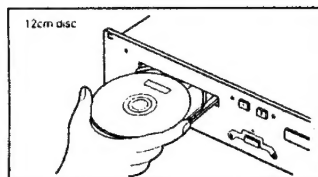
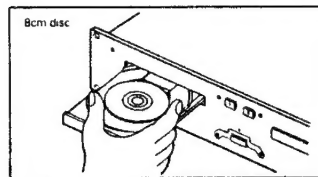

Figure 6
Figure 7
(1) Opening and Closing the Disc Holder and Loading Discs
① Opening and closing the disc holder
② Loading discs
- When using 12cm discs, place the disc in the outer tray guides (Figure 6), and when using 8cm discs, place them securely in the inner guides (Figure 7).